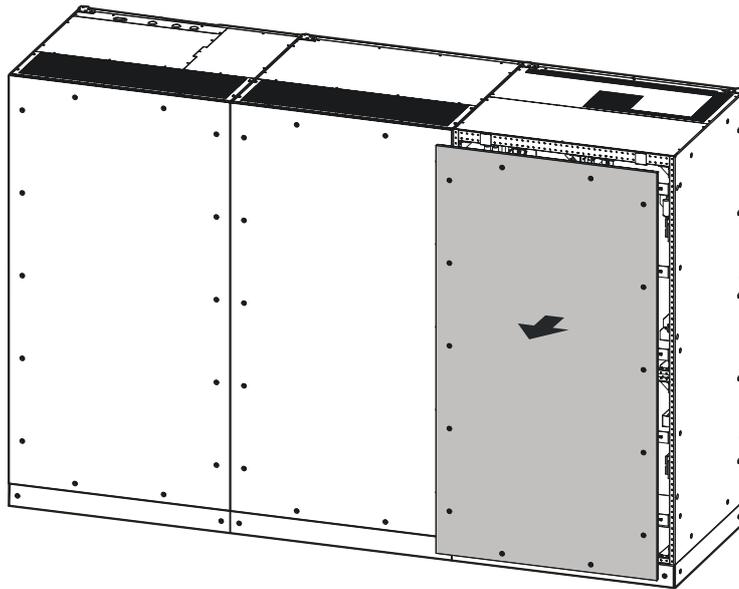

Figure3-44 Dismantle wiring cover plates of PS1000KVA, PS1200KVA
- Step 1 Use the cross screwdriver to remove the screws from the wiring block, and dismantle wiring cover plates, as shown in Figure3-44.